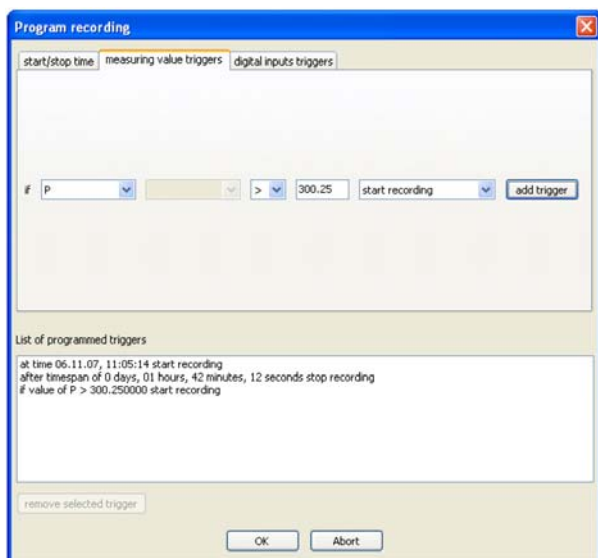

Figure 13: Measuring value threshold as event
- measuring values: You can define threshold values to be compared with the measuring values which trigger an event when they are exceeded (cf. figure 13).